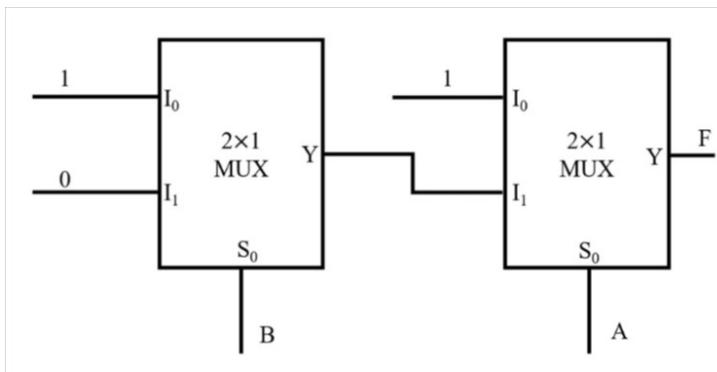

Fig. 4.18
35. The output F of the digital circuit shown in Fig. 4.18 can be written in the form(s) _____.